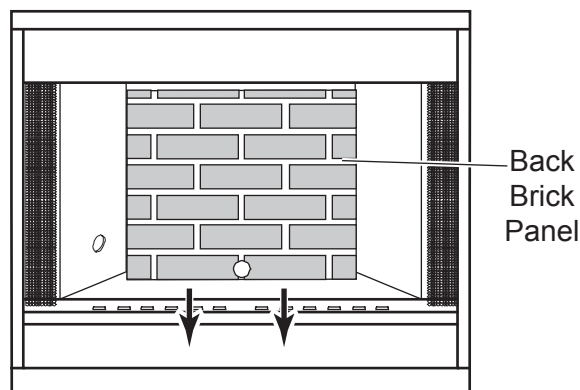

Figure 35 - Removing Hearth
6. Pull back brick panel toward the front of fireplace. Lift back brick panel out. *See Figure 35.*